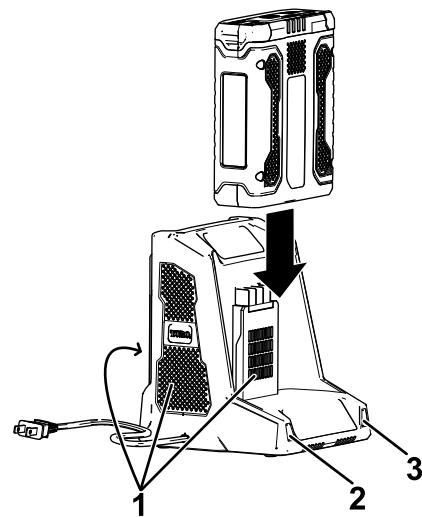

Figure 12
4. Slide the battery pack into the charger until it is fully seated (Figure 12).